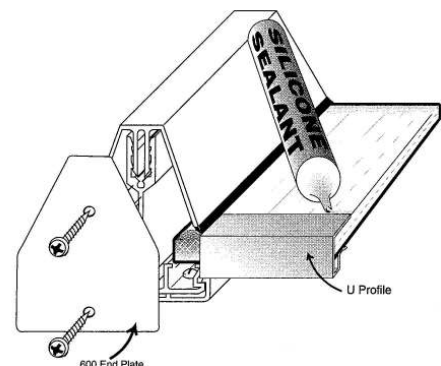

Fig.10
Step 11: Accurately cut the U profile to the appropriate length and fix over the anti-dust tape at the eaves end of the sheet between the glazing bars. A bead of silicone sealant can be applied to the upper side of the sheet along the line where it meets the U profile. Only use silicone sealant that is compatible with polycarbonate (Fig.10).